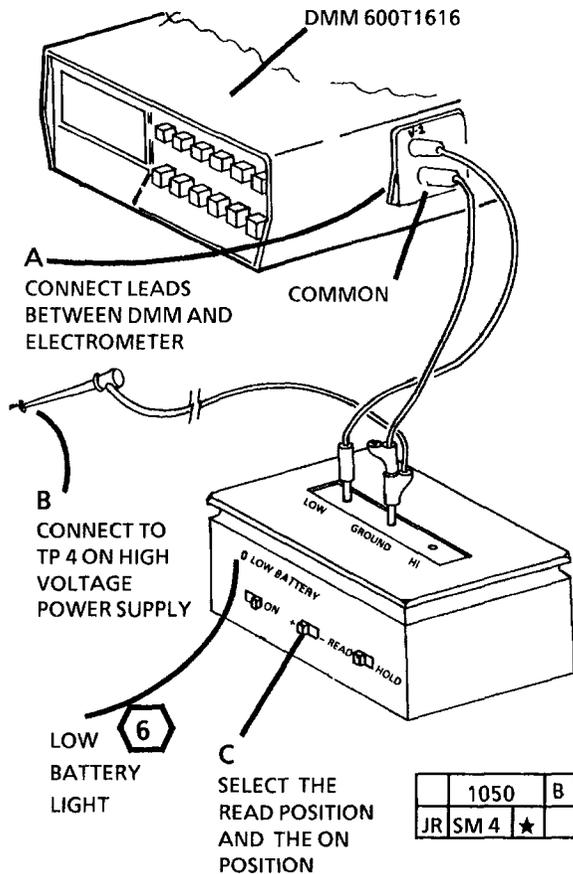

Figure 6. Connecting the Electrometer
13. (FIGURE 6): CONNECT DMM TO ELECTROMETER.